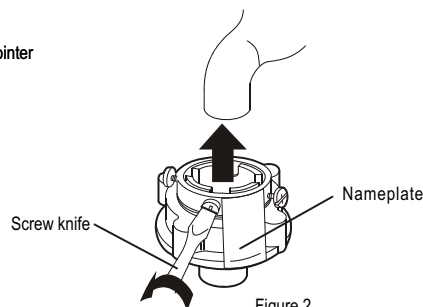
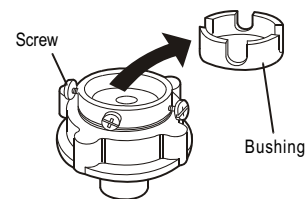

Figure 2
Figure 3
- 2 Loosen the screw till the water faucet can be accessed. Put the jointer of the water inlet hose on the faucet. See to Figure 2. (If the faucet is too large and the jointer can not be set on the water faucet, please loosen the four screws and take out the bushing in the jointer. The front end of the faucet must be smooth, otherwise it may leak water. See to Figure 3.)